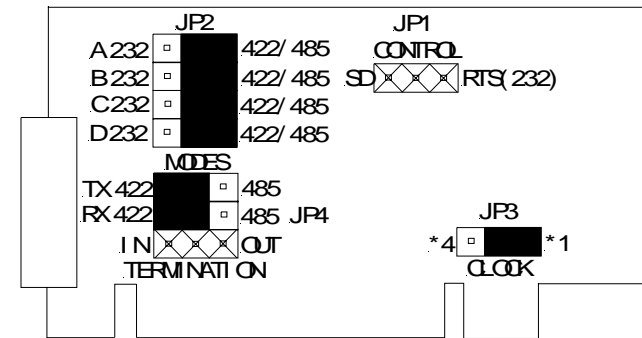

Figure 3. RS-422 Mode Jumper Settings
5. The bottom jumper "Termination" of JP4 switches the 120Ω receiver termination resistor IN or OUT. Typically this resistor is not used. In some cases using high baud rates and very long cables, termination is needed. See *B&B Electronics' free RS-422/485 Application Note* (available on our websites), *Termination* section, page 16, for more information. Figure 3 shows the jumper configuration to set the port for RS-422 mode with \*1 clock enabled.